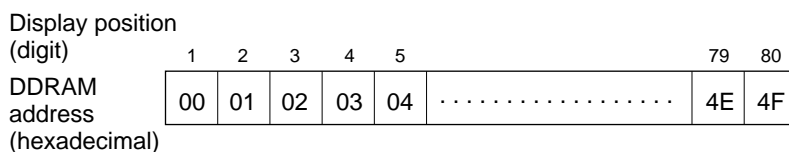

Figure 2 1-Line Display
- 1-line display (N = 0) (Figure 2)